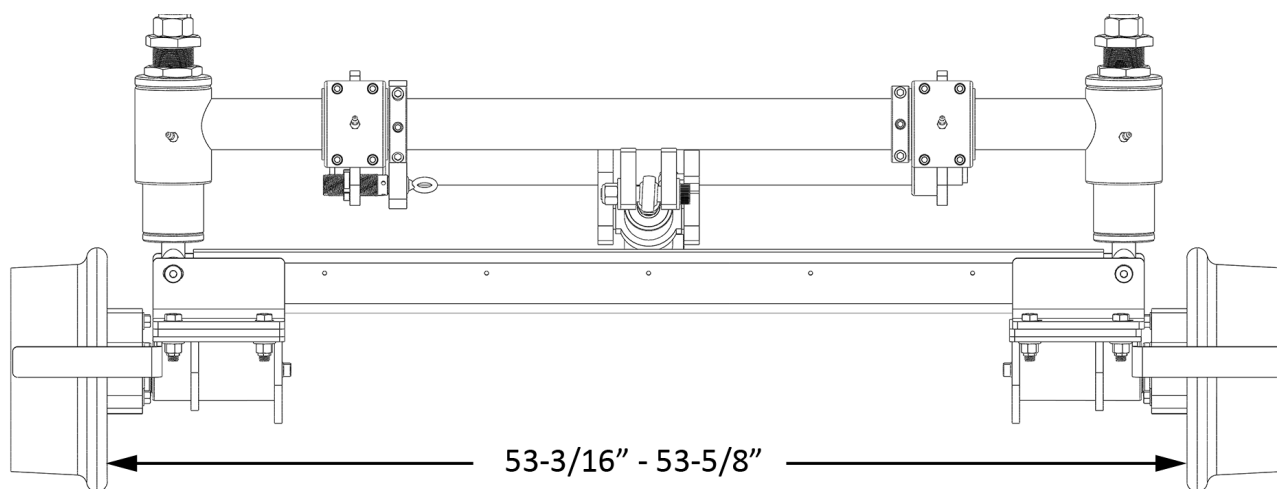

Figure 7
1. Measure from the inside of the flange of one guide wheel to the inside of the flange of the opposite guide wheel, as shown below in figure 7. This dimension needs to be between 53-3/16 - 53-5/8 inches (1351 - 1362 mm).